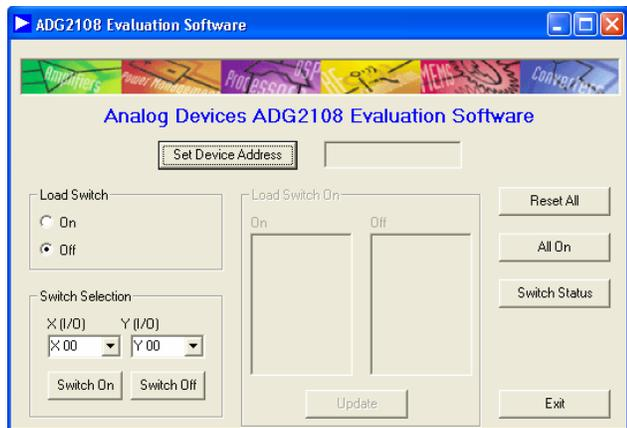

Figure 2. Main Screen
Next, the main window is opened (see Figure 2).
1. From the main screen shown in Figure 2, click the **Set Device Address** button.
The **Load Switch** options from the main window (shown in Figure 2) allows you to enable or disable the load switch function.
1. Selecting the **On** button allows all the switches to be updated simultaneously (for example, the RGB colors in video switching). In addition, clicking the **Switch On/Switch Off** buttons (when the **Load Switch** option is **On**) stores the switch status temporarily until **Update** is clicked. The switches in temporary storage are shown in the list boxes **X (I/O)** and **Y (I/O)** in Figure 2. Next, all the switches in the **Load Switch** area are updated simultaneously upon clicking the **Update** button.
2. Alternatively, click the **Reset All** button on the main screen of the software (shown in Figure 2) to reset all switches.